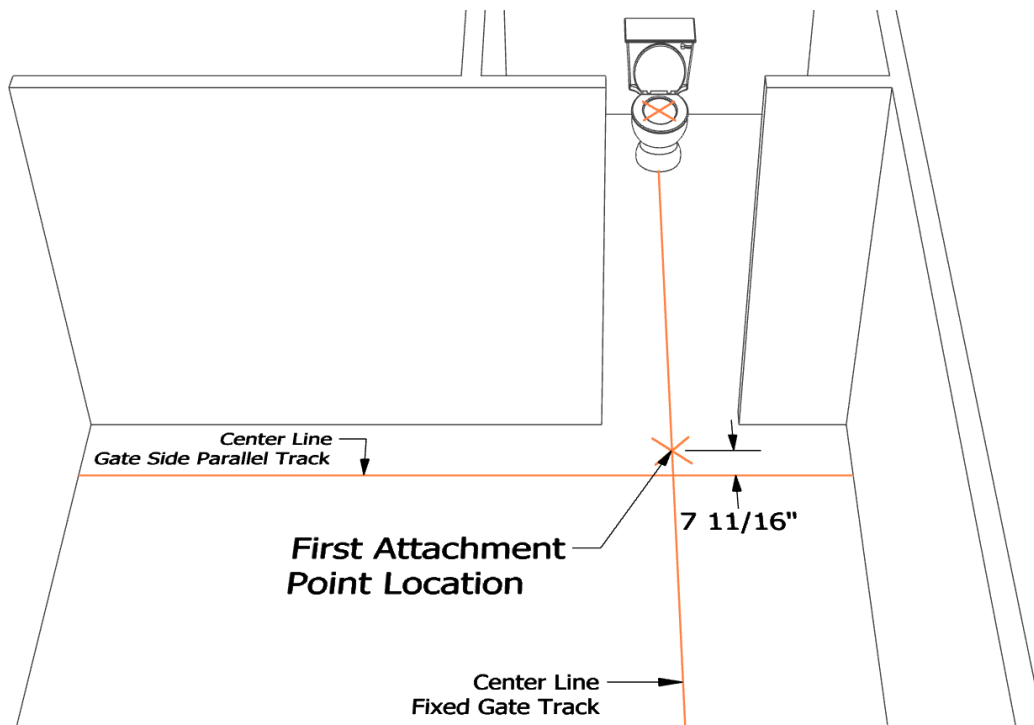

Figure 75: Point 7 11/16" Along the Fixed Gate Track Line
- **For a TGS 1000 lbs capacity** (used for any ceiling lift greater than 625 lbs capacity), from the intersection of the two lines just created, mark a point 7 11/16" over along the fixed gate track line (Figure 75).